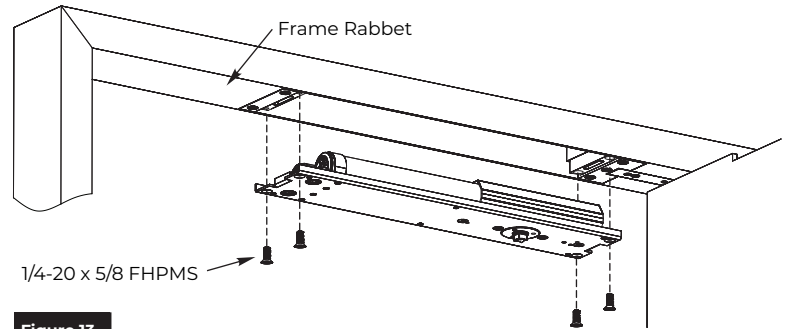

Figure 13
1. Install closer into wood mounting clips with four (4) 1/4-20 x 5/8" machine screws. (Figure 13)